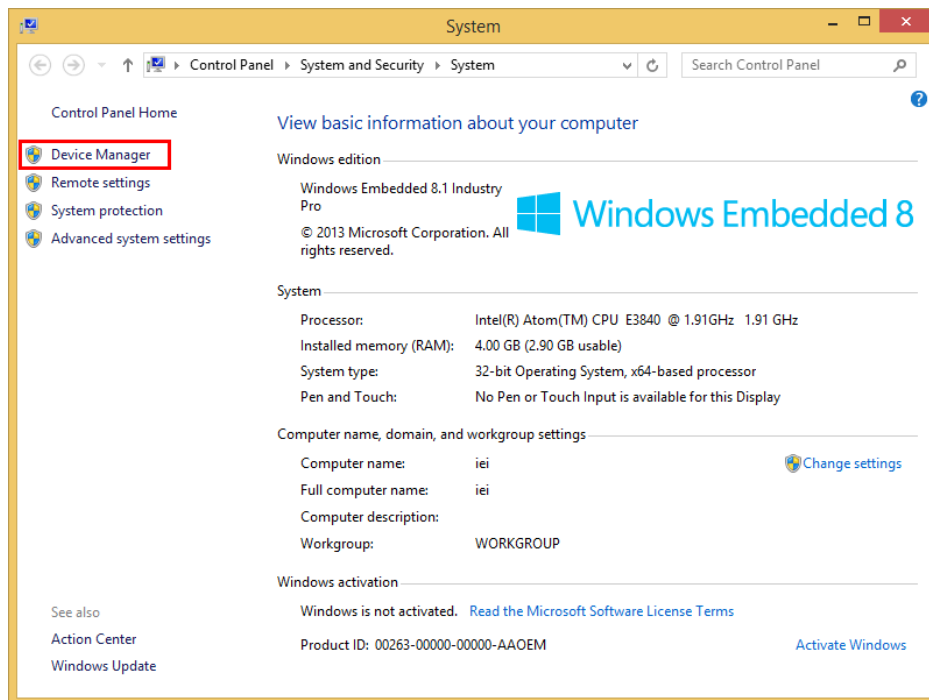

Figure 6-14: System Control Panel
Step 2: The system control panel window in **Figure 6-14** appears.
Step 3: Click the Device Manager link (**Figure 6-14**).